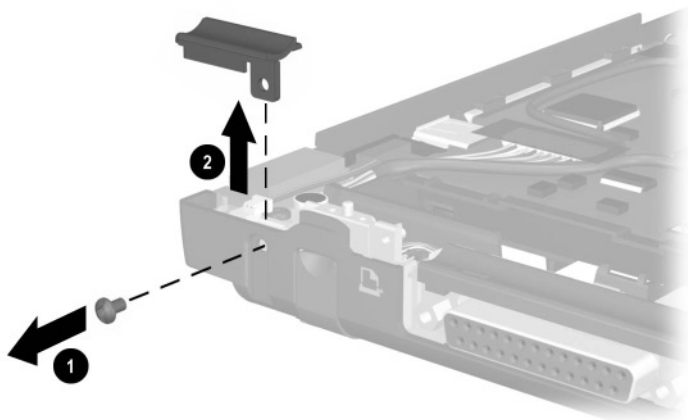

Figure 5-25. Removing the Right Display Support
3. Remove the TM2.0 × 6.0 screw ❶ that secures the right display support to the base enclosure (Figure 5-25).
4. Remove the right display support ❷.